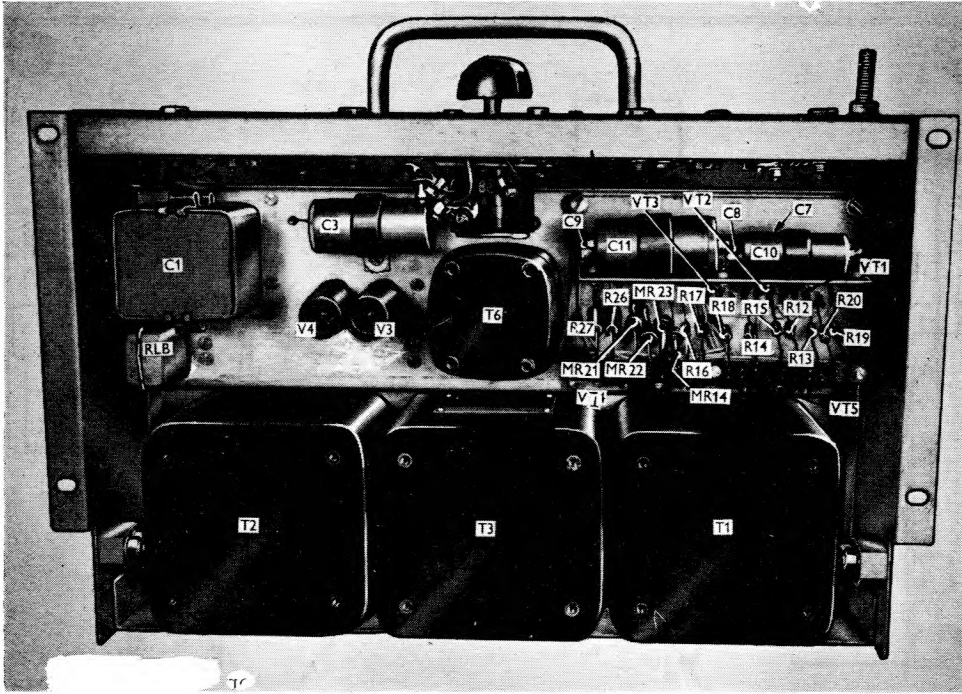

Fig. 4. Thyratron assembly : front view
7. The trigger circuit, situated inside the thyatron assembly (*fig. 4 and 5*), comprises five p.n.p. transistors (VT1–VT5) connected to form a common-emitter amplifier as shown in *fig. 7*. The d.c. output of the bridge rectifier network of MR21–MR24 is smoothed by C10 to provide a potential of  $-22\text{V}$  for the transistor collectors.
10. The negative bias supply for G2 of thyatrons V1 and V2 is provided by rectifier V3 (*fig. 7*). This d.c. supply is smoothed by C1 and stabilized to  $-108\text{V}$  by V4. Relay RLB, which becomes energized when the  $-108\text{V}$  bias supply is available, forms part of the modulator interlock circuit. Valves V3 and V4 and their associated circuit components are contained in the thyatron assembly (*fig. 4 and 5*).